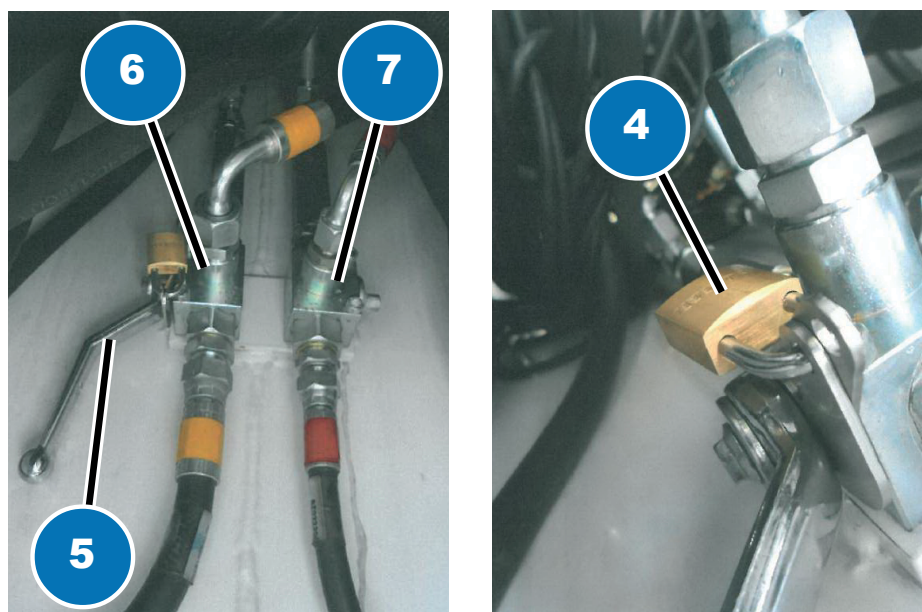

Fig. 8.4
- 6) carefully get up on the bed and open the diverter block lock (Fig. 8.4 4) with the key provided by the Safety Manager, raising the silver coloured lever (Fig. 8.4, 5) on the turret;
- 7) turn both of the two-position diverter valves (Fig. 8.4, 6 & 7) by two positions;
In order to grease the inside of the slewing ring you need to access the inside of the turret by removing the cover on the turret, see Fig. 8.4.